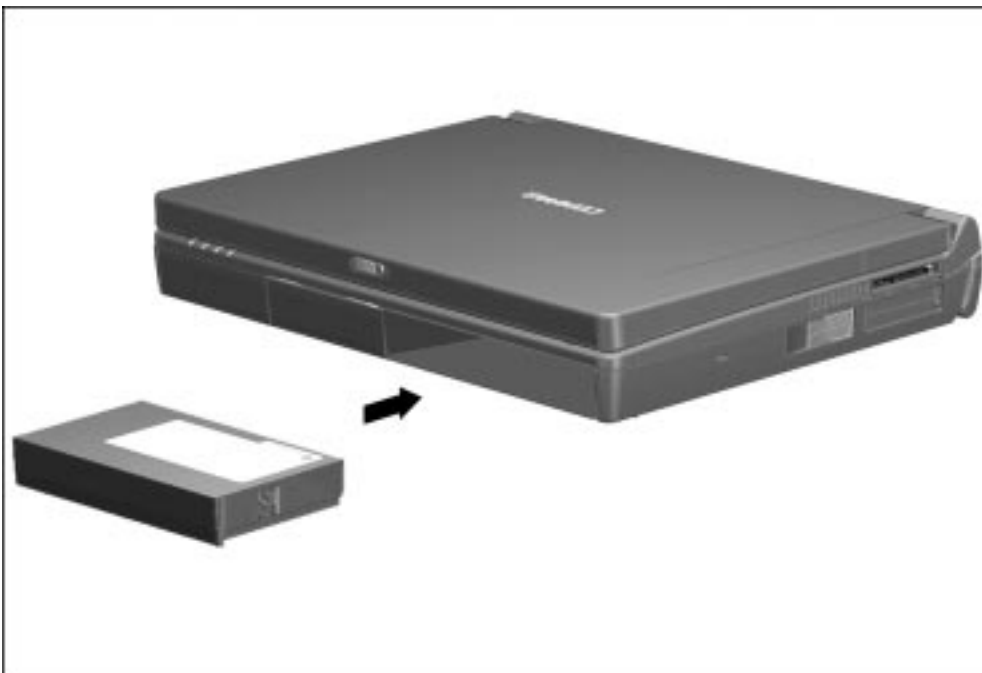

Figure 5-13. *Inserting a Battery Pack into the MultiBay*
2. If the battery pack was secured in the MultiBay using a single- or dual-bay security screw, replace the screw (Figure 5-13).